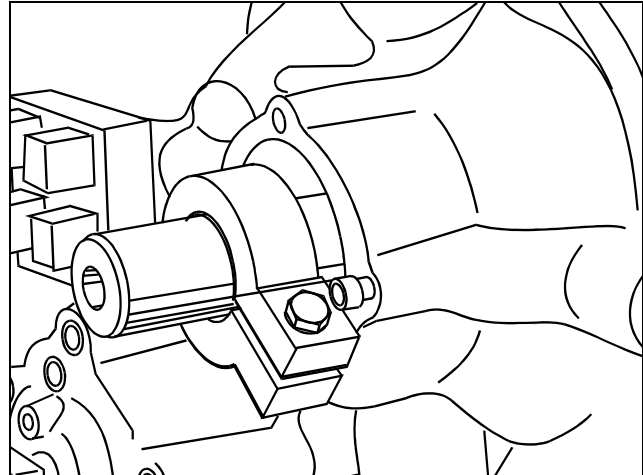

Figure 11: Locking the male rotor using clamping device T4 for dismantling the axial bearings
- The compressor's position transducer "HDT" (Hermetic Differential Transducer) has two adjustment controllers to correlate the slide position with the output signal (see figure 11).
remove the coupling half on the compressor side and lock the rotor using the clamping device T4 according to (figure 11).